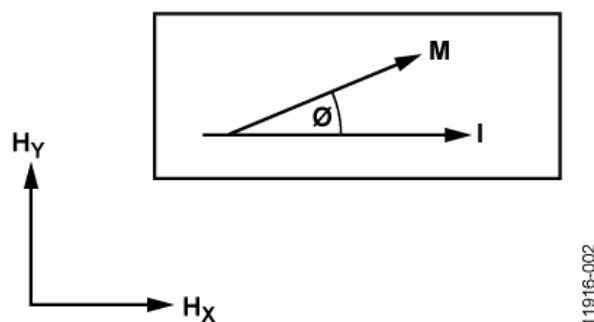

Figure 2. Anisotropic Magnetoresistive Example
An example of the AMR effect is shown in Figure 2. A current (I), flowing through a conductor, is subject to an external magnetic field (H_y). The resistance of the conductor changes as a function of the angle (θ) between the magnetization vector (M) and the current flow vector (I). The magnetization vector is the net sum of the internal magnetic field (H_x) and the applied external magnetic field (H_y).